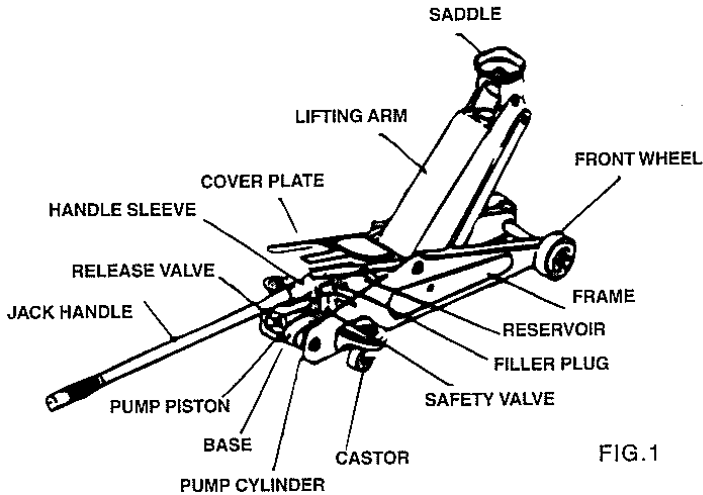

FIG. 1
Open the release valve by turning the jack handle (see Fig. 1) counter-clockwise.
- With notched end of the jack handle (See Fig. 1) close release valve by turning the handle clockwise.
- Refer to the vehicle manufacturer's owners manual to locate approved lifting points on the vehicle. Position jack so that the saddle (see Fig. 1) is centered under the load at an appropriate lift point.